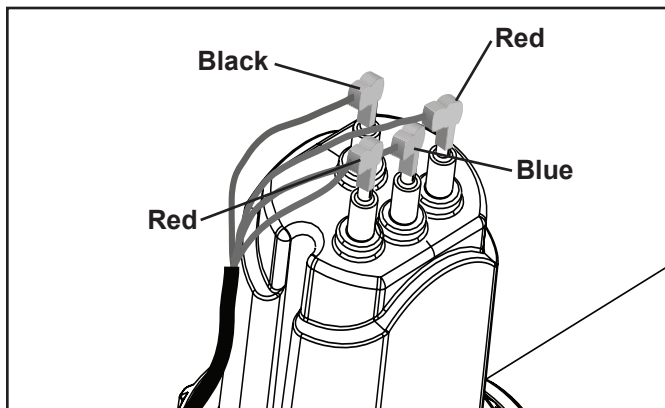

Figure 2. Connecting Cell Leads
7. Securely connect the cell leads to the like colored terminals (see Figure 2).